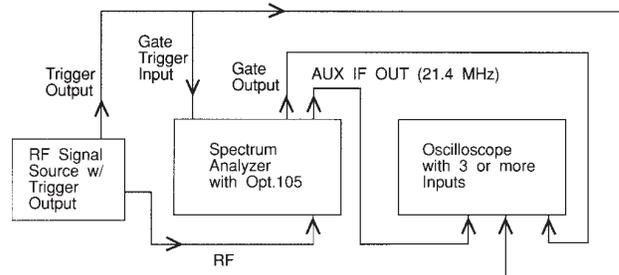

Figure C-1 Equipment configuration using spectrum analyzer as downconverter to view high frequency signal on oscilloscope
3. Connect the GATE OUTPUT from the back panel of the spectrum analyzer to another channel of the oscilloscope, and adjust as necessary to view a TTL signal when the gate is turned on later. Your equipment configuration should resemble Figure C-1.